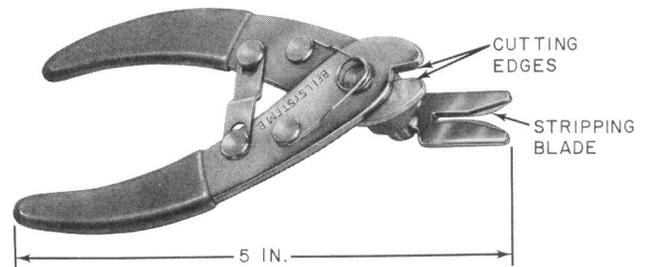

Fig. 3—AT-8515B Wire Stripper Tool
2.03 **AT-8515B:** The AT-8515B wire stripper tool (Fig. 3) is used for cutting and stripping 17-, 19-, 20-, 22-, 24-, and 26-gauge plastic insulated conductors. The tool is furnished with interchangeable stripping blades, one for each of the 17-, 19-, 20-, and 22-gauge sizes. Additional blades for the 17-, 19-, 20-, 22-, 24-, and 26-gauge sizes are also available as replacement parts. The spacing of the cutting blade and stripping blade produce a stripped length of 3/4-inch. Handles are provided with yellow cushion grips.